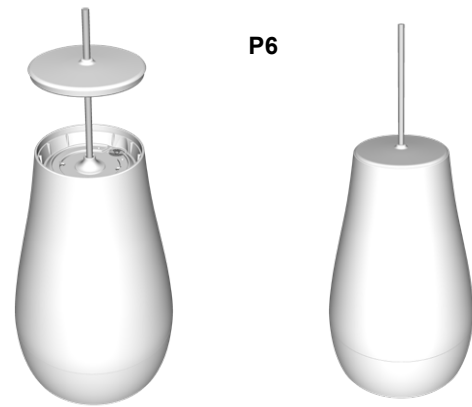

Figure 7. Move dust cap up the cable to access the tap switch, and back down and press into place when finished
1. Carefully move the dust cap up the Magic Cable to expose the switch (Figure 7).